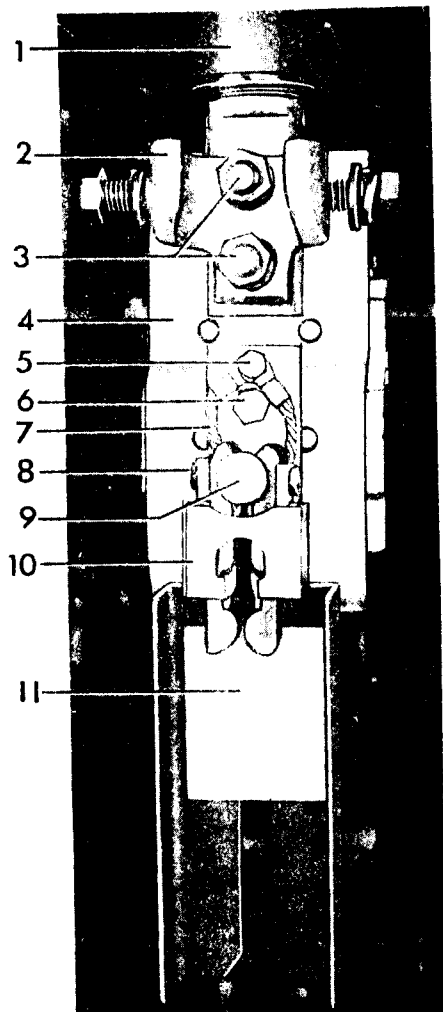
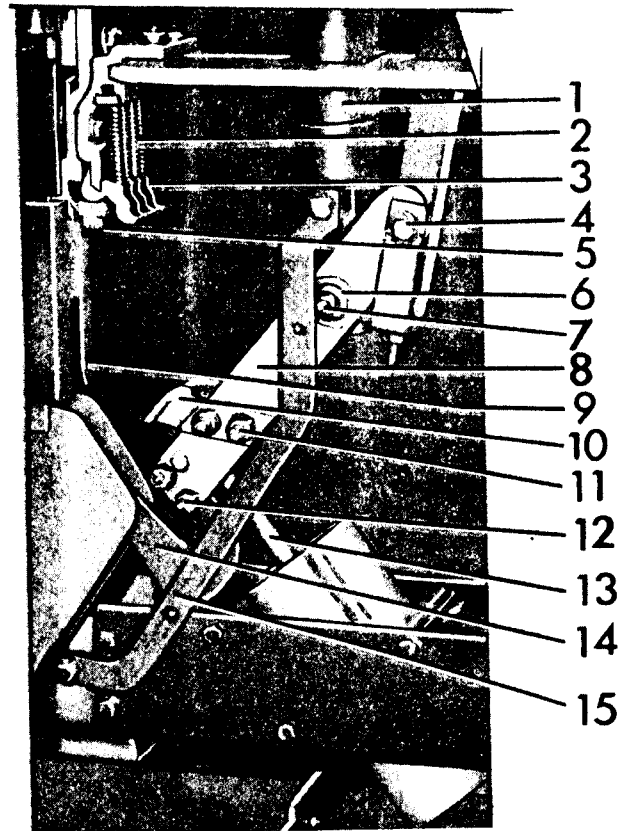

Figure 22. (8039586) Rear Bushing Assembly
Figure 23. (8038805) Contact Assembly
2. Primary Contacts (3 and 10 Figure 23). Inspect the condition of the stationary contact fingers and movable contact blocks. Badly pitted or burned contacts should be replaced. (Note: Burned primary contacts indicate the probable need for arcing contact replacement.) If the contact surfaces are only roughened or galled, they should be smoothed with crocus cloth or draw filed. After contact dressing the primary contacts should be greased lightly with D50H47.
7. The cup bearing and the contact ring at the hinge point of the contact blade should be disassembled, inspected, cleaned, and relubricated with G-E contact lubricant D50H47. The contact ring should be inspected for wear and replaced when reduced in thickness to less than 1/32". When reassembling the cup bearing, be sure the cotter pin is properly assembled in the castle nut on the hinge pin (7) Figure 23. This assures proper contact pressure at the hinge.
3. The stationary primary contact fingers (3) Figure 23, should be disassembled and the silver-plated pivot area of the contact and contact support cleaned and lubricated with G-E lubricant D50H47.
A. Stationary Arcing Contacts (10) Figure 22.
1. Disconnect the contact braids (7) from the contact fingers by removing two bolts and locking plates (8).
3. To disassemble braids from stud plate remove one bolt (5).
4. To disassemble stud plate from contact support, remove two bolts (6).
5. Reassemble in the reverse order, make sure locking plates are properly reassembled with bolts (8).
B. Movable Arcing Contact (14) Figure 23.
1. Remove the assembly bolts (12) making note of quantity and location of shims and spacers used between contacts and contact arms.
3. Close the breaker slowly to check that the movable arcing contact is approximately centered on the stationary arcing contact and that it does not rub on either side of the throat barrier (9).
D. Movable Primary Contacts (10) Figure 23.
1. Disassemble operating rod pin (4), first noting quantity and location of washers in the assembly.
2. Pry contact arms (8) apart enough to disengage pivot pins of piston assembly (13) allowing piston to drop down into its booster cylinder.
3. Rotate the two parts of the contact arm assembly away from each other so assembly bolts (11) are accessible and movable primary contacts (10) can be removed.
E. Contact Arm Assembly (8, 10, 13, 14) Figure 23.
1. Remove connection bar (15).
2. Disassemble hinge pin (7), cup bearing (6) and operating rod pin (4) noting quantity and location of any washers and spacers used in assemblies.
3. The contact arm assembly including the piston assembly (13) can now be removed.
4. When reassembling, first insert piston tube assembly (13) into the booster cylinder and reassemble the cup bearing, making sure the silvered contact washers between the bushing and contact arms (both sides) are in place.
5. Reassemble operating rod pin (4) and connection bar (15).
5. Disassemble the spring retainer (4) by removing mounting bolts (5).
6. Referring to Figure 22, disassemble the contact support (4) and interrupter mount-
3. Remove the connection bar (15) Figure 23, cup bearing (6) and hinge pin (7).
5. When reassembling, first mount the bushing and assemble the cup bearing (6), contact arm (8), and replace pin (7) being sure the silvered contact washers between the bushing and contact arms are in place. The contact surfaces at the hinge point of the contact blade and bushing should have a thin coating of D50H47 grease.